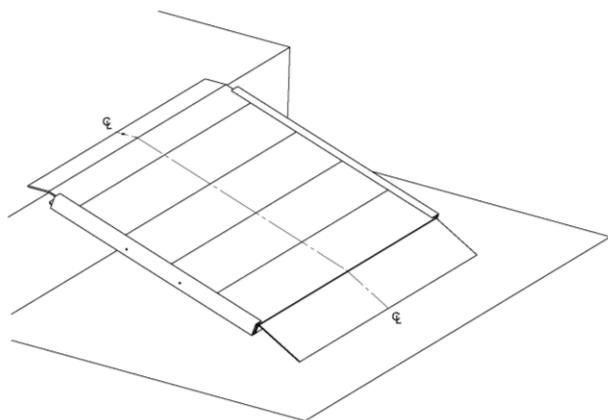

FIG. 1
3. Position the ramp(s) securely on support surfaces (FIG. 1).
- ▲ Always enter and exit ramp(s) along the centerline (Φ) (FIG. 1).